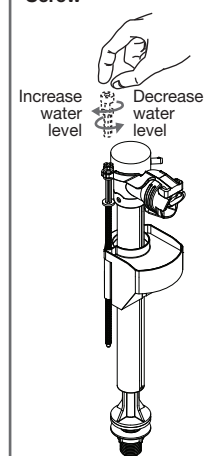

Fig. 3
- 4- Adjust water level. Turn on water mains. Open the cistern stop valve and check the operation of the mechanisms and valve. Adjust water level to the water level mark inside the cistern by simply turning the float arm adjustment screw in a clockwise or anti clockwise direction as detailed in **Fig. 3**.